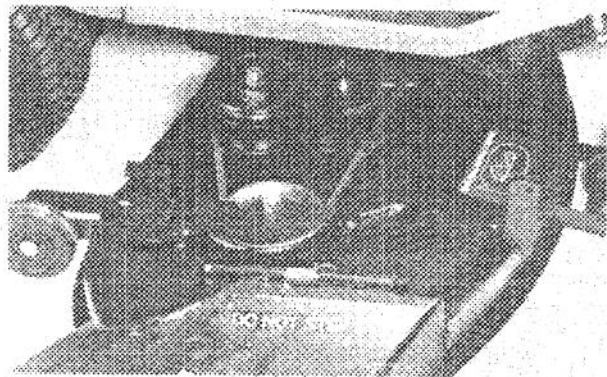

Figure 29
4. Turn tractor front wheels fully to the right and pull the unit out from under the machine (Fig. 29).
IMPORTANT: Make sure blade sail is facing top of mower housing and cutting edge of blade is away from top of mower housing (Fig. 29). While lock nut is tightened, move blade slightly so it seats between sides of blade retainer.